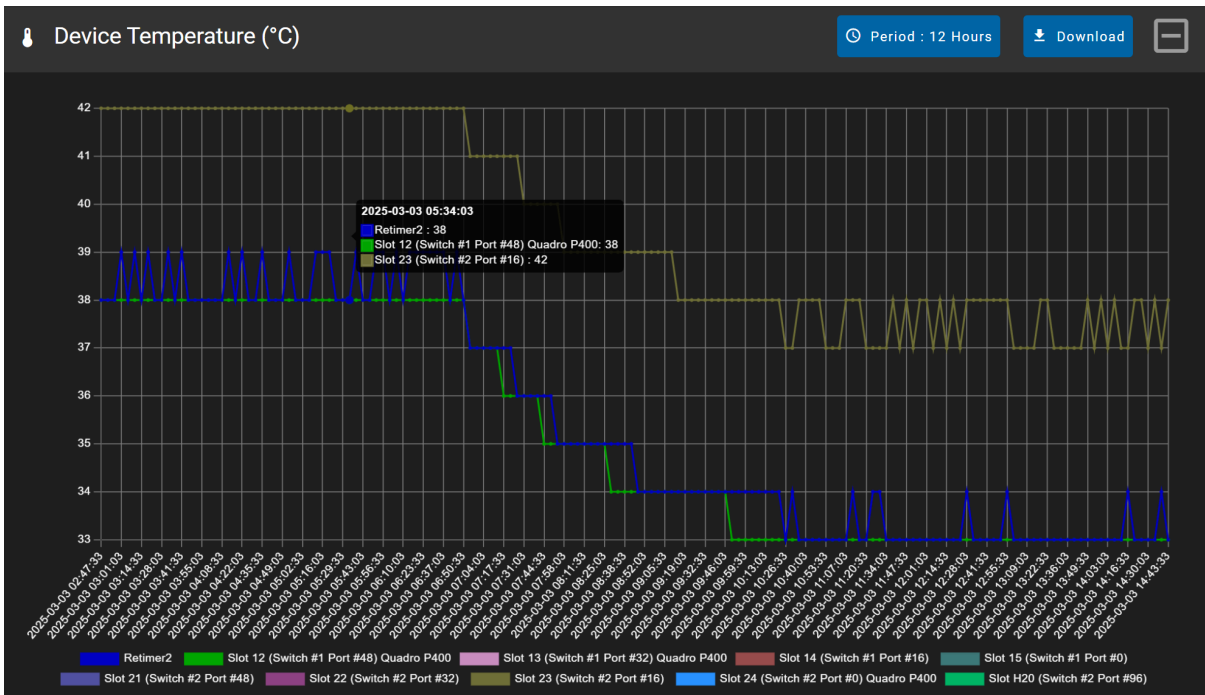

Figure 60. Device Temperature Chart
- Scroll down in the monitoring interface to find the Device Temperature chart (refer to Figure 60).